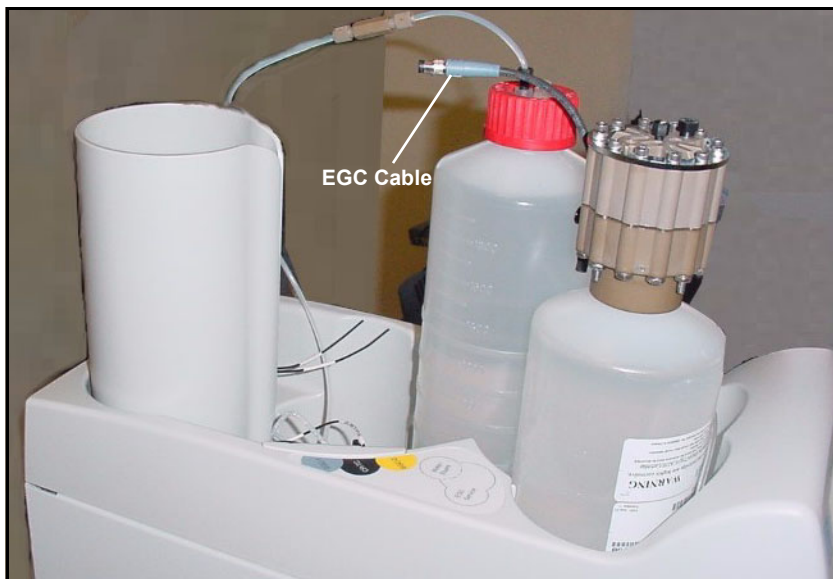

Figure 36. EGC Cable Orientation
3. Orient the EGC with the cable toward the cartridge holder (see Figure 36).